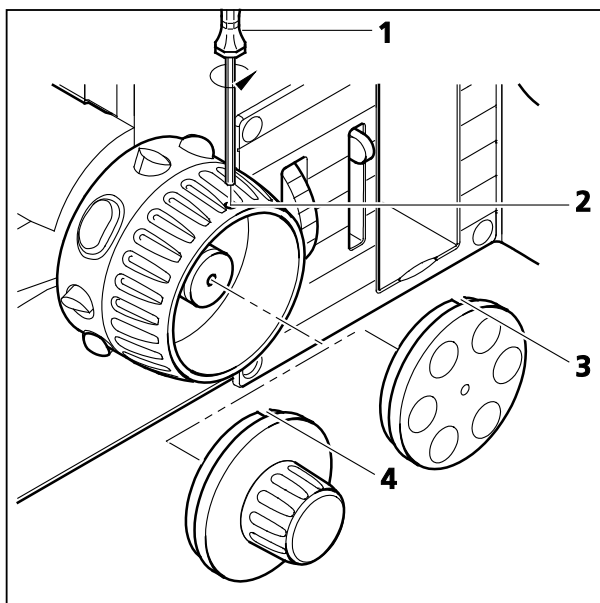

Fig. 33 Changing the fine-drive knob or fine-drive disk
- Turn the coarse-drive knob on the relevant side of the stand so that the mounting hole (Fig. 33/2) points upward.
- Insert the ball-headed screwdriver SW 1.5 (Fig. 33/1) into the mounting hole and loosen the locking screw of the fine-drive knob or the fine-drive disk.
- Slide the fine-drive disk or the fine-drive knob onto the shaft, so that the recess (Fig. 33/3 or 4) is located under the mounting hole.